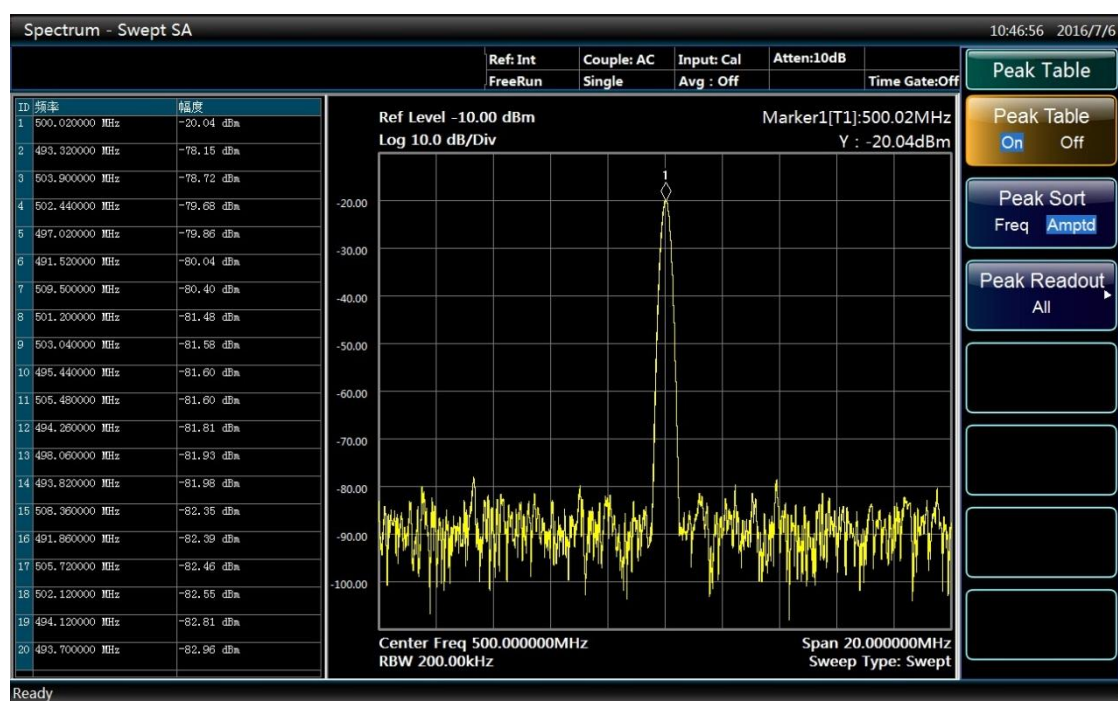

Fig. 3.5 The interface of opening peak table
- Press [More1/2], [Peak Table>>] and [Peak Table ON OFF] to open a new window of marker peak list as shown in Fig. 3.5.